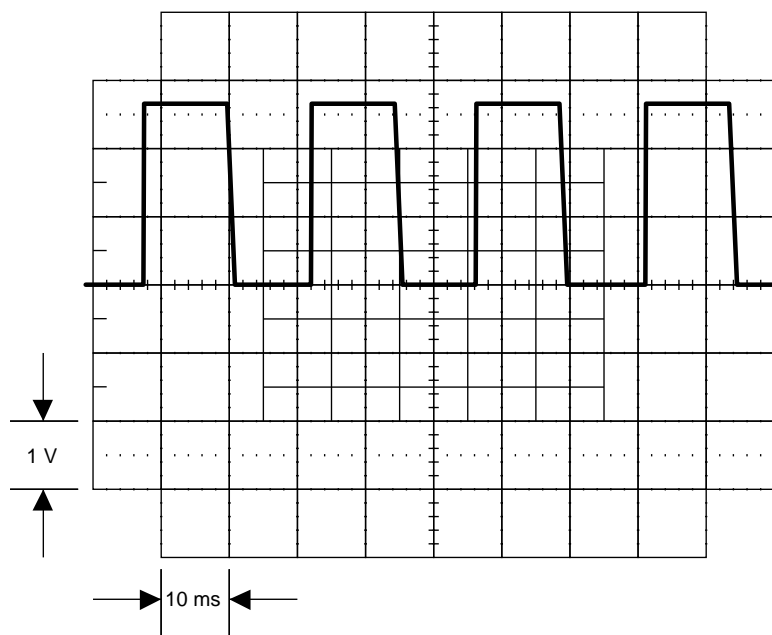

Figure 5-21. Waveform at TP5
8. Connect an oscilloscope to TP5 (common to TP3) and Set the 5700A to 6.5V dc, operate. Set the oscilloscope to 5V/div at 2 ms/div and verify the signal is similar to that shown in Figure 5-21. If this signal is incorrect, check Q4, Q5, Q6, and Q7.